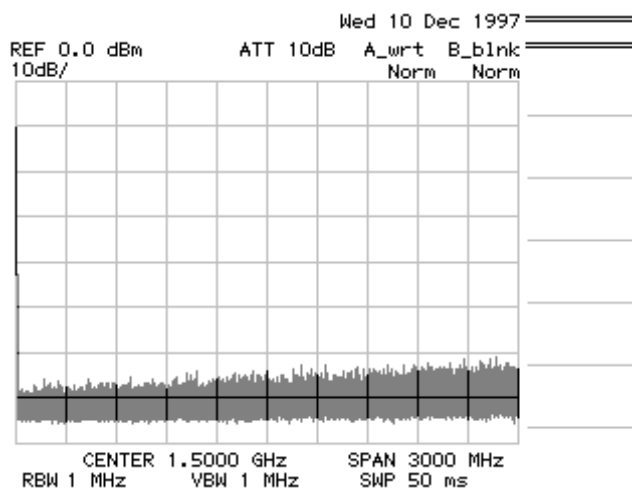

Figure 1-5 Screen Display after Self Tests have Completed
- NOTE:** *There is a possibility that the screen display is different from the one shown in Figure 1-5, depending on previously saved conditions.*
The startup screen is displayed as shown in Figure 1-5.